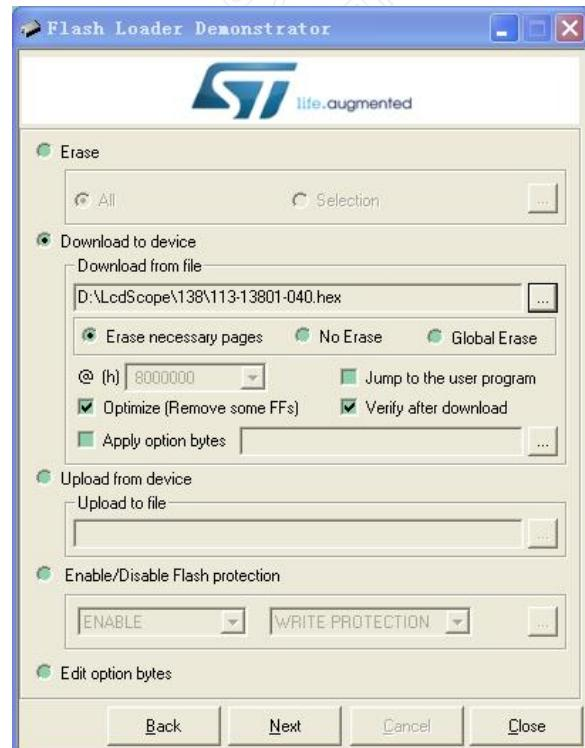

Fig. 8
- 6) In Fig. 8 select “Download to device” and open the firmware file (HEX file) which you have saved on your PC by clicking on the “...” button. Make all the rest settings the same as shown in Fig. 8. Then click on Next to start writing.